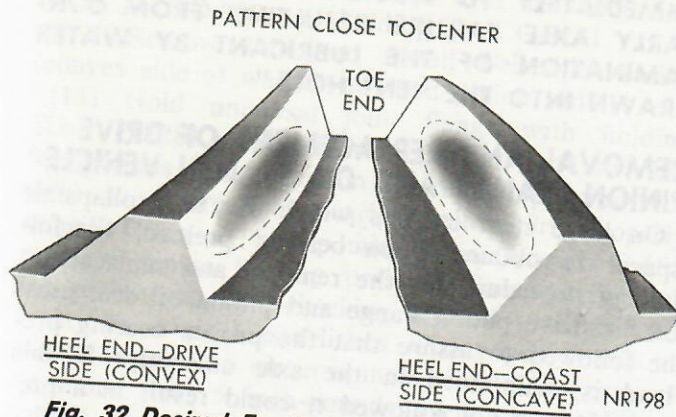

Fig. 32 Desired Tooth Contact Under Light Load
(1) Apply a thin film of red or white lead on both the drive and coast side of the drive gear teeth. Rotate drive gear one complete revolution in both directions while load is being applied with a round bar or screwdriver between the carrier casting and differential case flange. This action will leave a distinct contact pattern on both the drive and coast side of the drive gear teeth.
(2) Observe the contact pattern on the drive gear teeth and compare with those in figures 32, 33
and 35 to determine if pattern is properly located. With pinion depth of mesh and gear backlash set properly, your contact pattern should resemble that in (Fig. 32). Notice that the correct contact pattern is well centered on both drive and coast sides of the teeth. When tooth contact patterns are obtained by hand, they are apt to be rather small. Under the actual operating load, however, the contact area increases.